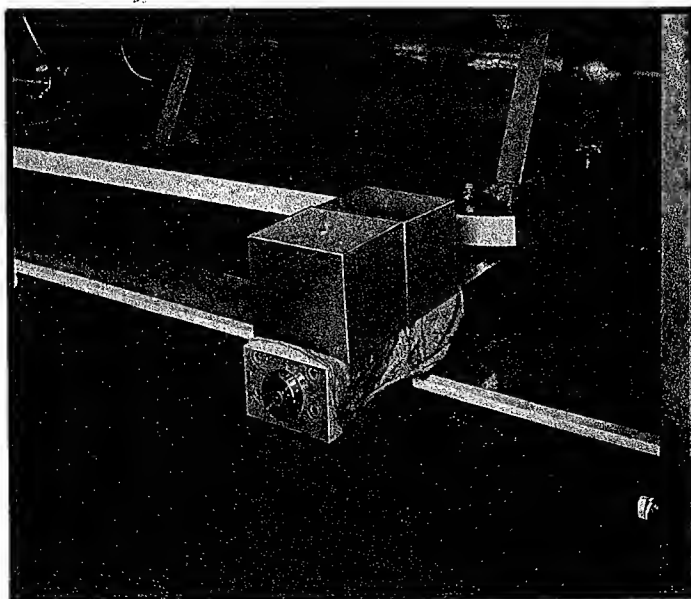

FIGURE 113
- Place a 150 pound weight at the rear of ram brace near one end as shown in Figure 113.